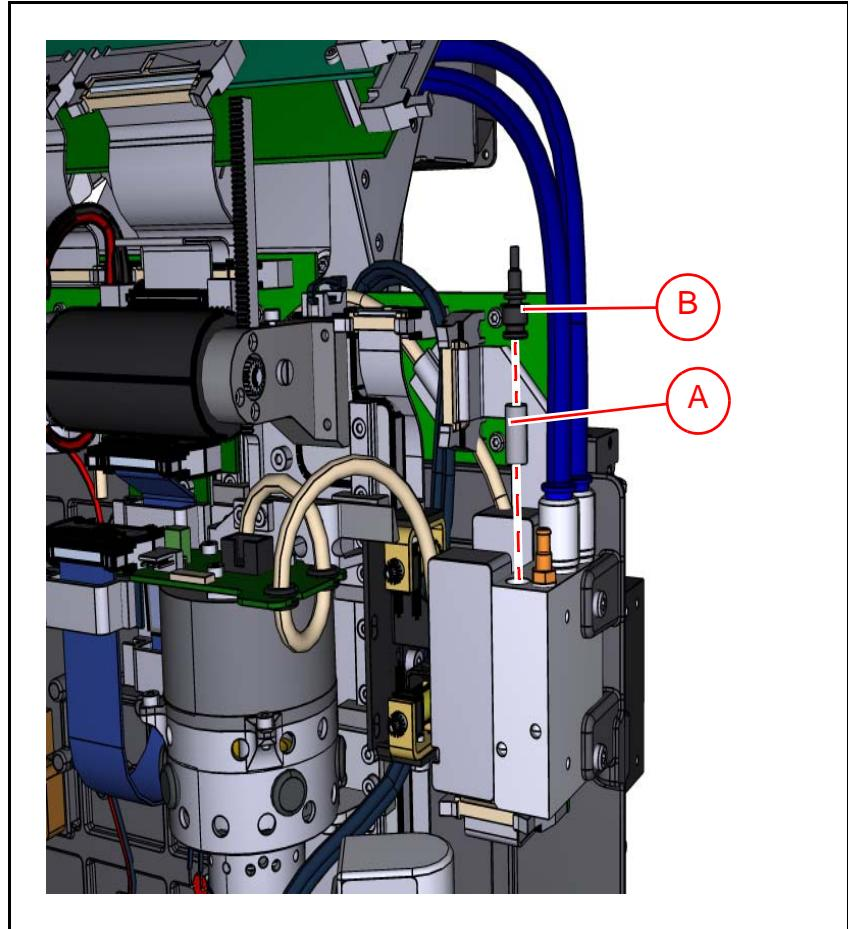

Figure 16-21. Removing the Midas vacuum filter.
3. Replace the Midas vacuum filter ('A' in Figure 16-21). Pull out the nipple ('B'), and use a pair of tweezers to remove the old filter. Part numbers are found in the *Spare Parts Catalog*.